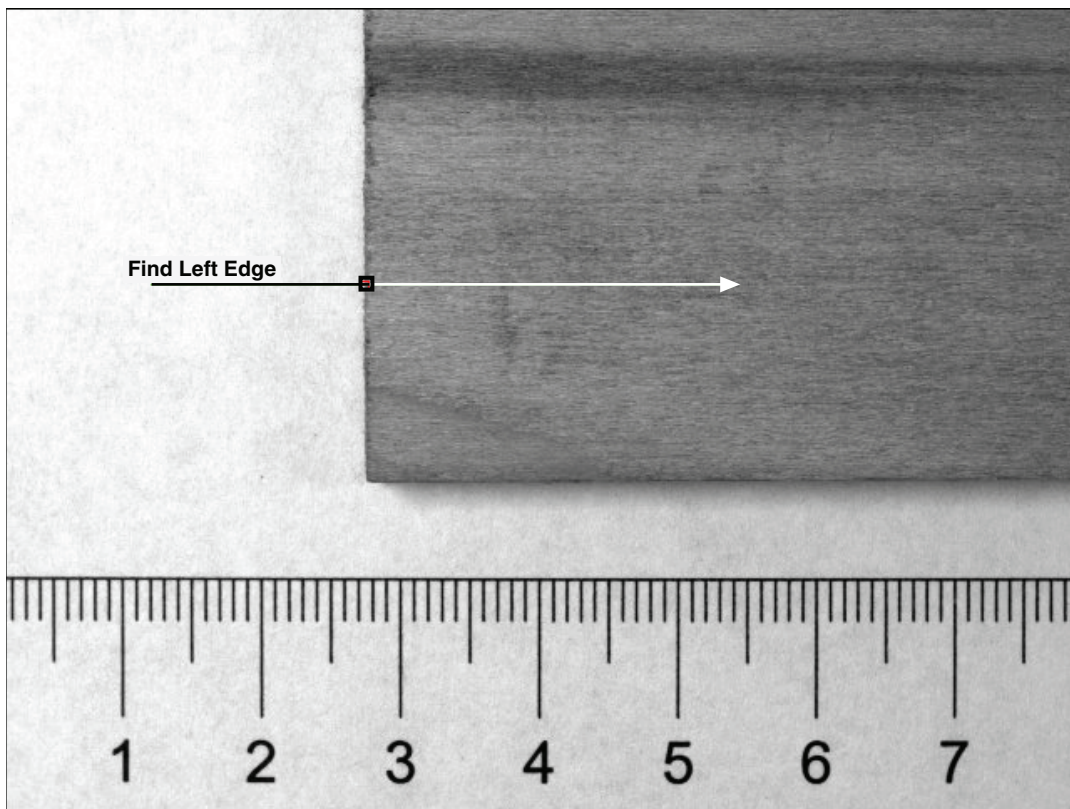

Figure 5-6. Finding the Left Edge of the Plank
4. Hold down the <Shift> key and draw a line across the left edge of the part going from left to right, as shown in Figure 5-6.